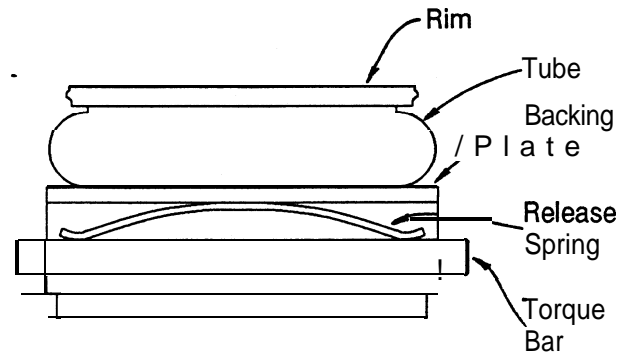

Fig. 15
- 4.7.5 Place a torque bar in each mating hole in the side plate, slide a friction shoe assembly onto each torque bar and carefully tap a release spring (51VC1600, 60VC1600 and 66VC1600 elements have two release springs in each cavity) into place. Make sure the spring is positioned on the side of the torque bar opposite the friction lining. Also, the spring must contact the torque bar at two points, not one. See Figure 15.